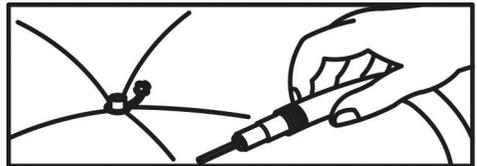

Figure 2
3. Insert the adapter into the air nozzle, and press the thumb latch to secure the adapter on the air nozzle. See figure 2.